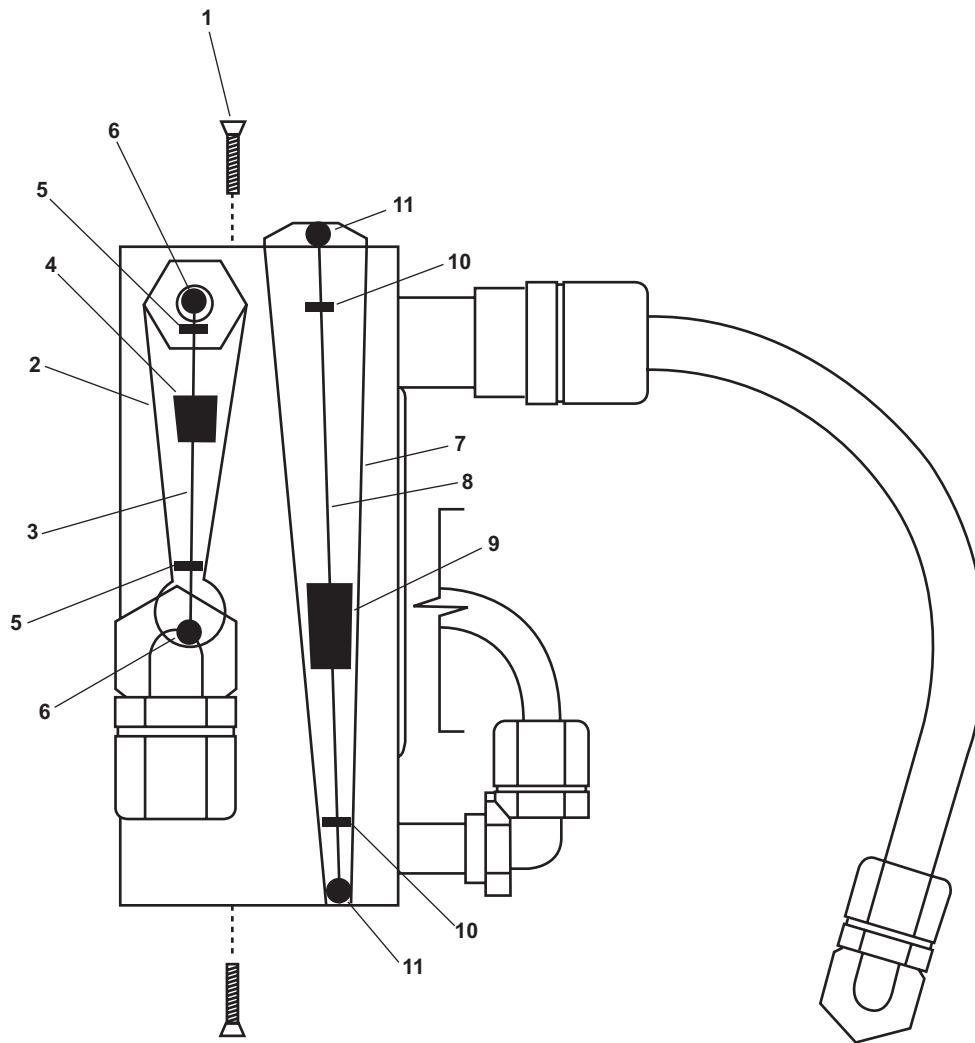

Figure 5. Product Water and Brine Flow Meters (Rear View)
8. Remove the top access screw (figure 5, item 1) to the PRODUCT flow meter glass tube (figure 5, item 2).
9. Remove the guide rod (figure 5, item 3) from the PRODUCT flow meter glass tube (figure 5, item 2).
10. Remove the PRODUCT flow meter glass tube (figure 5, item 2).
11. Remove the float (figure 5, item 4), bumpers (figure 5, item 5), and tube stops (figure 5, item 6) from the PRODUCT flow meter glass tube (figure 5, item 2).
1. Gently install the float (figure 5, item 4) on the guide rod (figure 5, item 3).
2. Gently install the guide rod (figure 5, item 3) and float (figure 5, item 4) in the PRODUCT flow meter glass tube (figure 5, item 2).
3. Install the bumpers (figure 5, item 5) and tube stops (figure 5, item 6) on the glass tube PRODUCT flow meter glass tube (figure 5, item 2).
5. Install the top access screw (figure 5, item 1).
2. Thoroughly clean the interior of the PRODUCT flow meter glass tube (figure 5, item 2) using clean hot water and a small bottle and buret brush.
8. Remove the top access screw (figure 5, item 1) to the BRINE flow meter glass tube (figure 5, item 7).
9. Remove the guide rod (figure 5, item 8) from the BRINE flow meter glass tube (figure 5, item 7).
10. Remove the BRINE flow meter glass tube (figure 5, item 7).
11. Remove the float (figure 5, item 9), bumpers (figure 5, item 10), and tube stops (figure 5, item 11) from the BRINE flow meter glass tube (figure 5, item 7).
1. Gently install the float (figure 5, item 9) on the guide rod (figure 5, item 8).
2. Gently install the guide rod (figure 5, item 8) and float (figure 5, item 9) in the BRINE flow meter glass tube (figure 5, item 7).
3. Install the bumpers (figure 5, item 10) and tube stops (figure 5, item 11) on the BRINE flow meter glass tube (figure 5, item 7).
4. Position the assembled BRINE flow meter glass tube (figure 5, item 7) in the flow control panel.
2. Thoroughly clean the interior of the BRINE flow meter glass tube (figure 5, item 7) using clean hot water and a small bottle and buret brush.